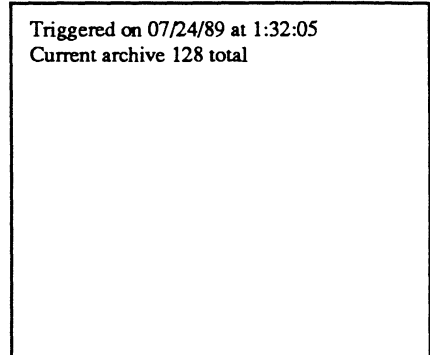

Figure 1
1. Press the top of the Index button (A). Note that two fields of information appear at the top of the screen (Figure 1). You are now viewing data captured during the previous sweep.